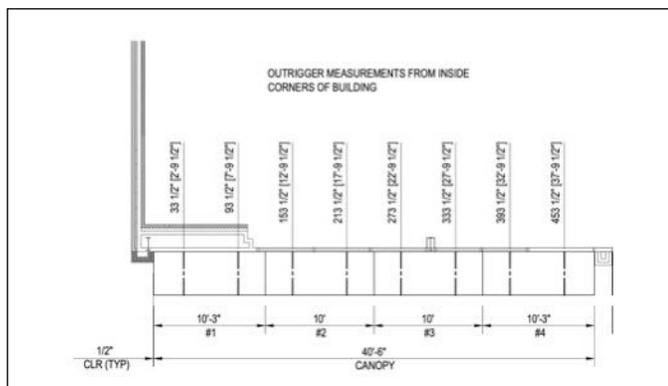
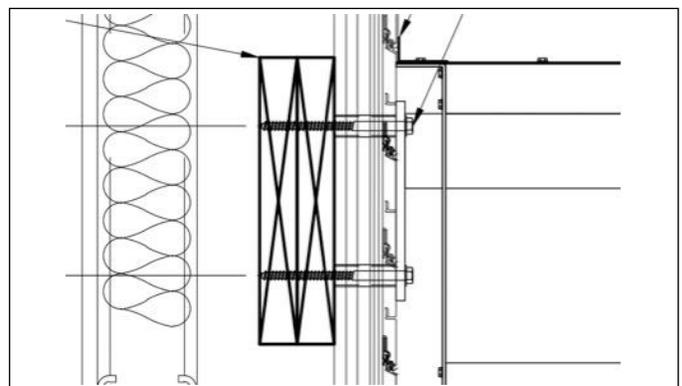

Fig 3
Fig 4
2. Once outrigger locations are marked per dimensions (Fig 3), drill required holes based on specified hardware (Found in drawing package - Fig 4). Seal back of outrigger plate with supplied sealant, secure using included fasteners (#6). Seal sides, top and bottom of plate.